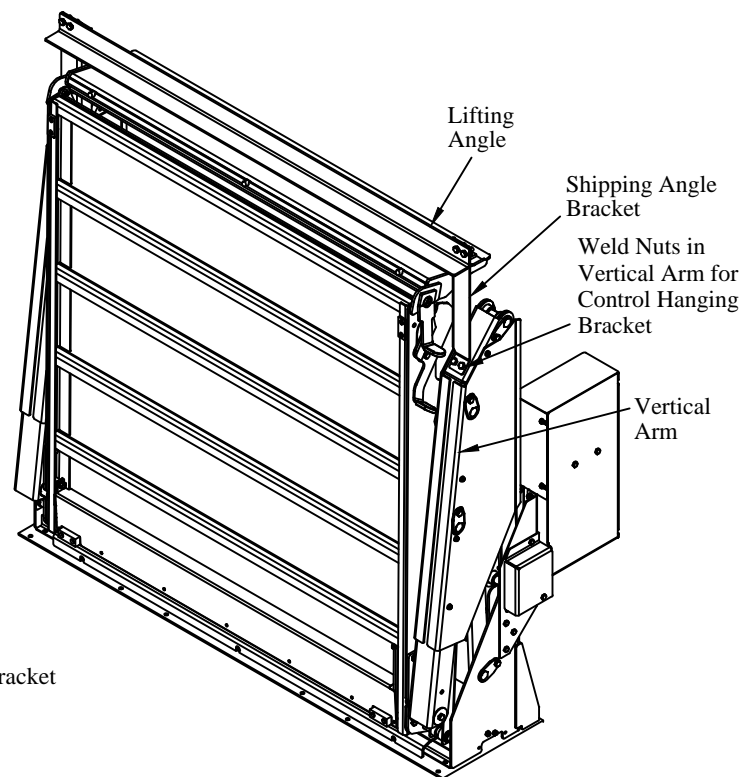

Figure 21: Lifting angle and vertical arm.
5. **Unbolt** and **Remove** the lifting angle and brackets (Figure 21). There are weld nuts inside the vertical arm.
7. **Select** a location to install the control hanging bracket. Use a location on the passenger side rear corner post of the van at a height that allows the entire pendant cord to be completely inside the van when stored (Figure 21).
11. **Install** second control hanging bracket with supplied 3/8" bolts on the passenger side vertical arm where the lifting angle was removed (Figure 21).